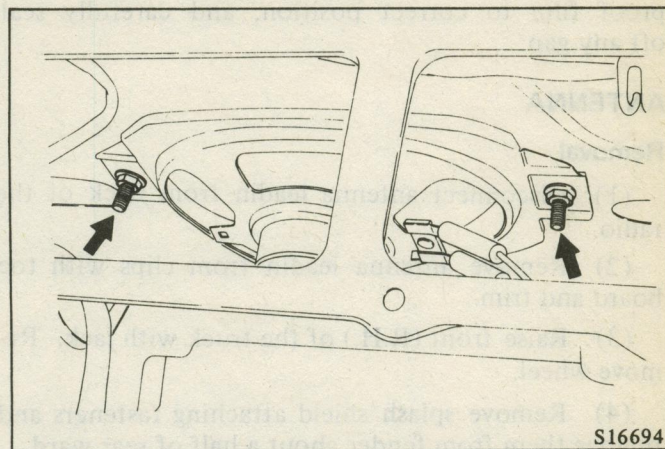

Fig. 156 Removing the Front Speaker
- (1) Remove the glove box (Refer to GROUP 23).
- (2) Disconnect speaker lead wire (both radio side and speaker side).
(3) Remove speaker attaching nuts and take out the speaker downward. (Fig. 156)